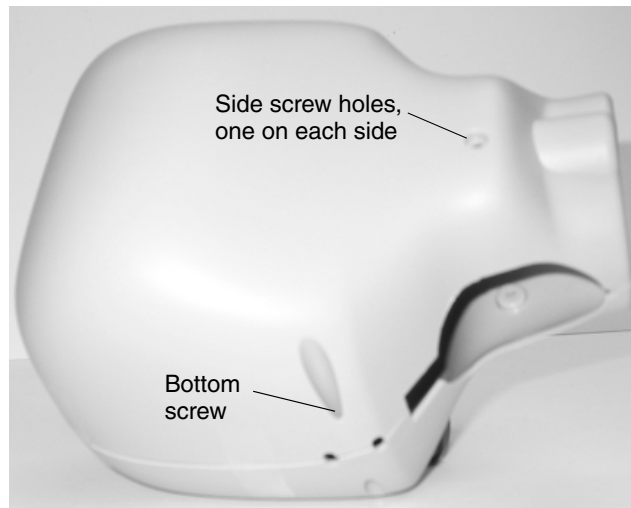

Figure 28: Shroud screws
2. Use a No. 2 Phillips-head screwdriver to install the bottom screw. See Figure 28.